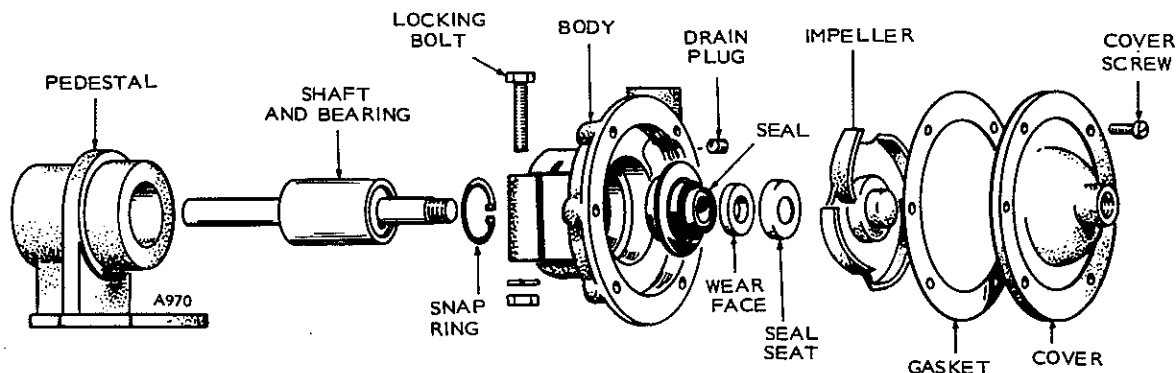

FIGURE 6-27. FRESH WATER PUMP—RJC, RDJC, RDJF, MDJA, MDJB, MDJC, MDJF
The centrifugal fresh water pump is mounted on the heat exchanger bracket. If it leaks or the bearings require replacement, disassemble as follows and replace the worn components. Refer to Figure 6-27.
8. Remove water pump from water pump housing, Figure 6-27.